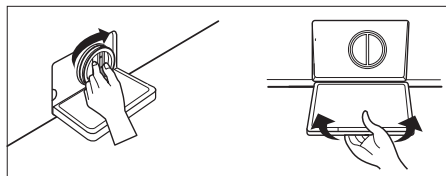

Fig.16
- Press release lever on the inside of the drawer and pull it out. (Fig.16)